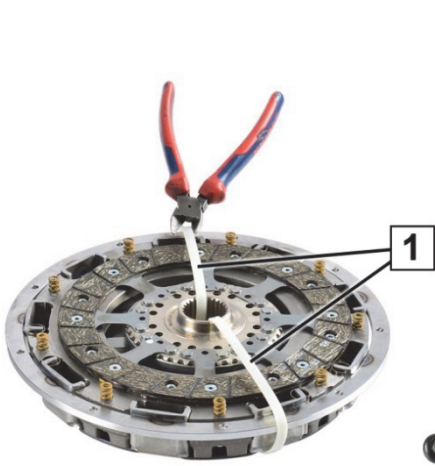
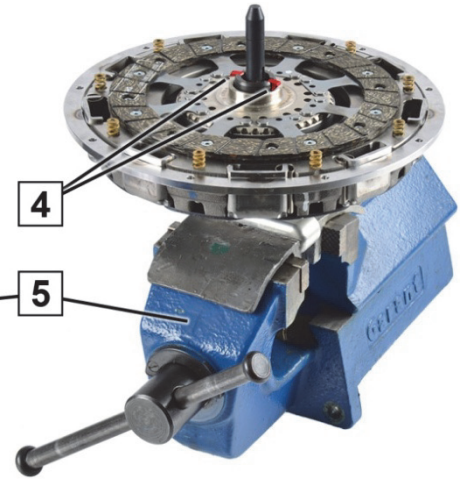

Fig. 1: Transit support
Fig. 3: Snap special tool in place
4. Remove the twin plate clutch (12) and tighten it in the vise (5) with the special tool (3) (Fig. 3).
1. Place the twin plate clutch (12) on the workbench with the clutch disk facing upwards (Fig. 1).
3. Remove the cable clip transit support (1) (Fig. 1).
4. Pull on the pull knob (2) to loosen the locking device (4) of the special tool (3).
5. Press the twin plate clutch with the hub onto the special tool (3) until the locking device (4) fixes the twin plate clutch (Fig. 3).